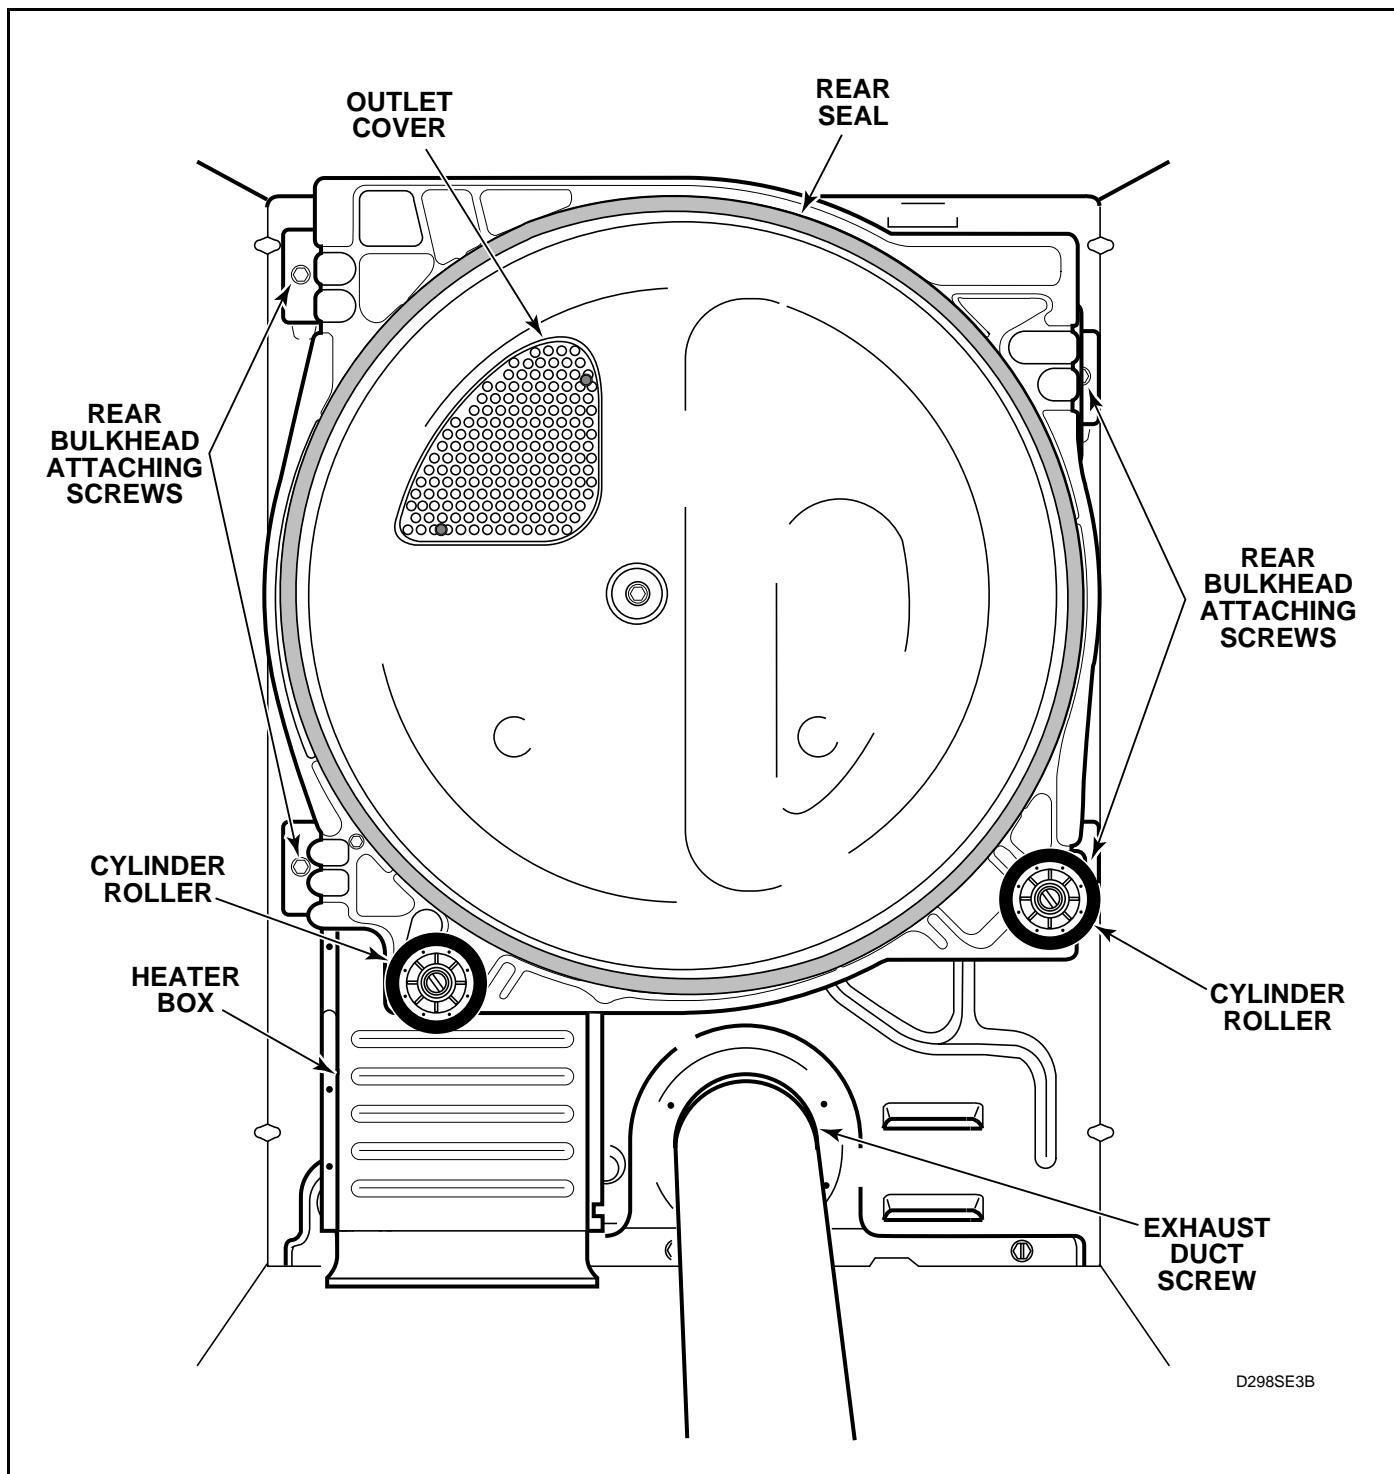

Figure 51
- j. Pull rear cylinder seal from flanged edge of bulkhead. See *Figure 51*.
- Open door and remove two screws holding outlet cover to rear bulkhead. See *Figure 51*.
k. While supporting bulkhead, remove the four screws holding rear bulkhead to dryer cabinet, then lift complete assembly out of dryer. See *Figure 51*.